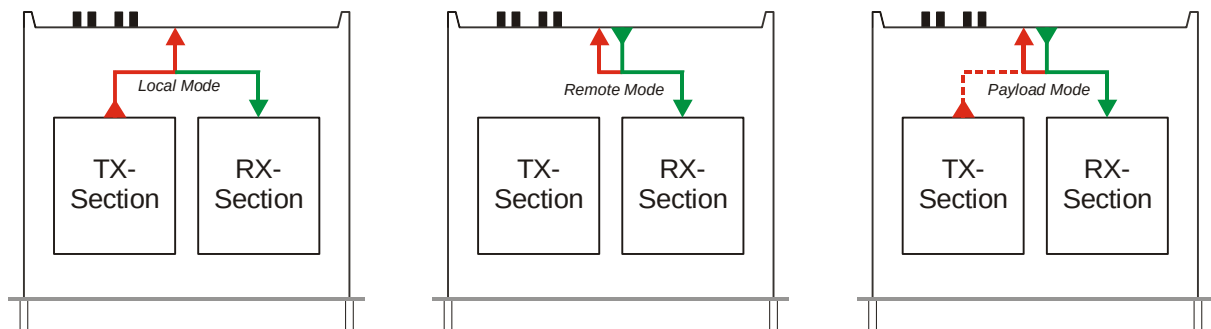

Fig 10 E1/T1 Local, Remote & Payload Mode
- Sending out and linking the TX-bitstream to the RX-section by entering the *Local* mode (refer to **Fig 10**, **INOUT:E1:LINK [LOCAL'OFF]**, **INOUT:T1:LINK [LOCAL'OFF]**),
- The *loopback status* (**Fig 10**, commands **INOUT:E1:LOOPback [REMote'PAYLoad'OFF]**, **INOUT:T1:LOOPback [REMote'PAYLoad'OFF]**).
The TX-bitstream is sent out and linked to the RX-section, whereby the E1/T1 input connectors are disabled (**Fig 10**).
The RX-bitstream (i.e. incoming voice data & signaling) is looped back to the E1/T1 outputs, thus becoming the TX-bitstream. This way, **RT-2X** can only monitor the RX-bitstream (**Fig 10**).
RT-2X loops the payload voice data (192 bits) from the RX-section back to the TX-section. The FPS framing pattern, CRC6 calculation and the FDL bits are not looped back, but re-inserted by **RT-2X**. The incoming voice data of the RX-bitstream are looped back to the E1/T1 outputs. Consequently, the incoming RX-signaling & voice data can be monitored, whereby the user can re-insert the TX-signaling (**Fig 10**).